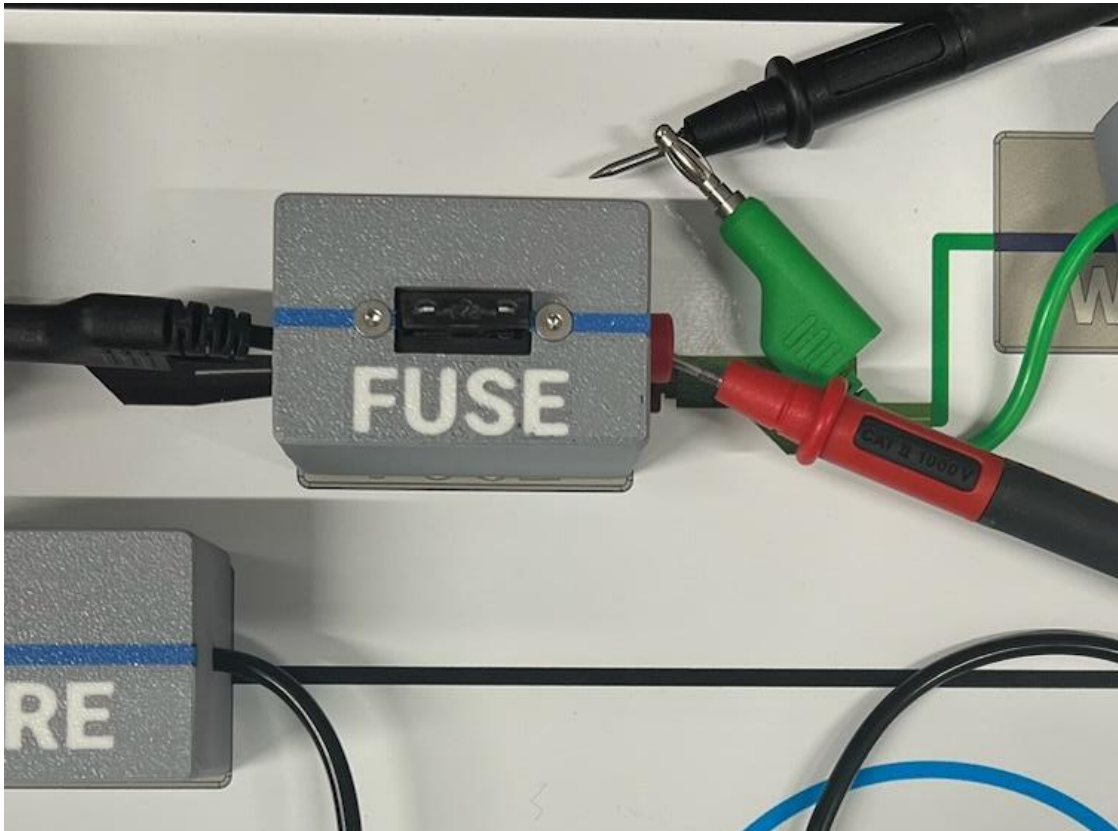

Figure 8: Measuring Current in a circuit
7. Review Figure 8 below before proceeding